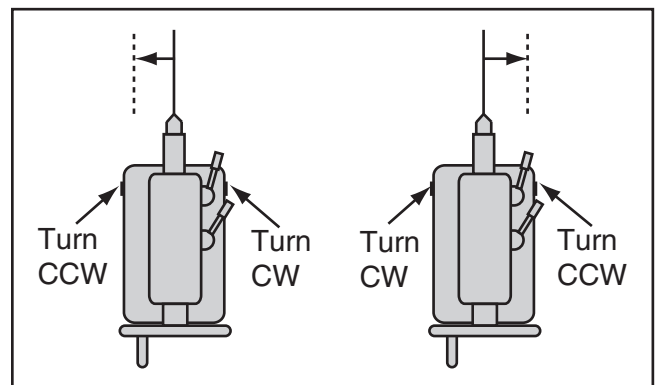

Figure 50. Example of set screw adjustment in relation to tailstock movement.
2. Rotate the adjustment set screws in opposite directions for the desired offset (see the illustration in **Figure 50**).